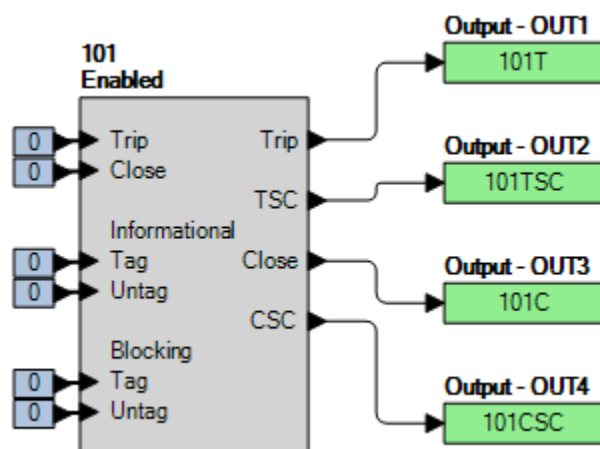

Figure 71-1. BESTlogicPlus Settings
Step 2: Use BESTCOMSP^{Plus} to configure the BESTlogic^{Plus} Programmable Logic shown in Figure 71-1.